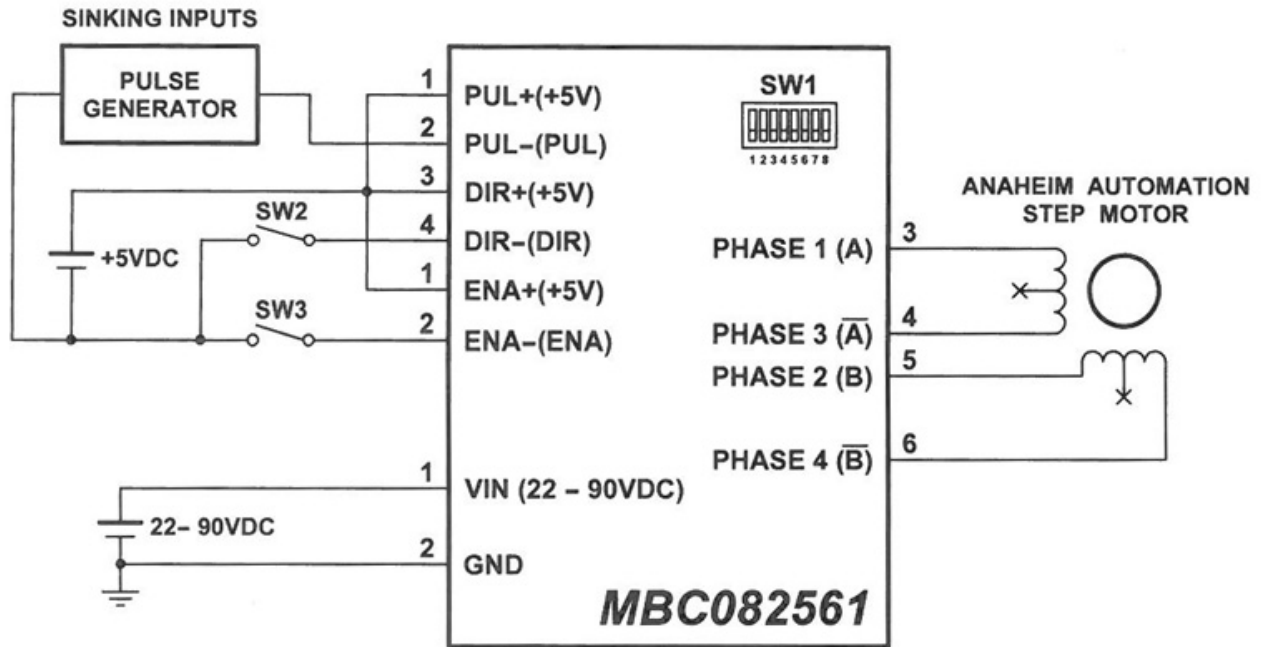
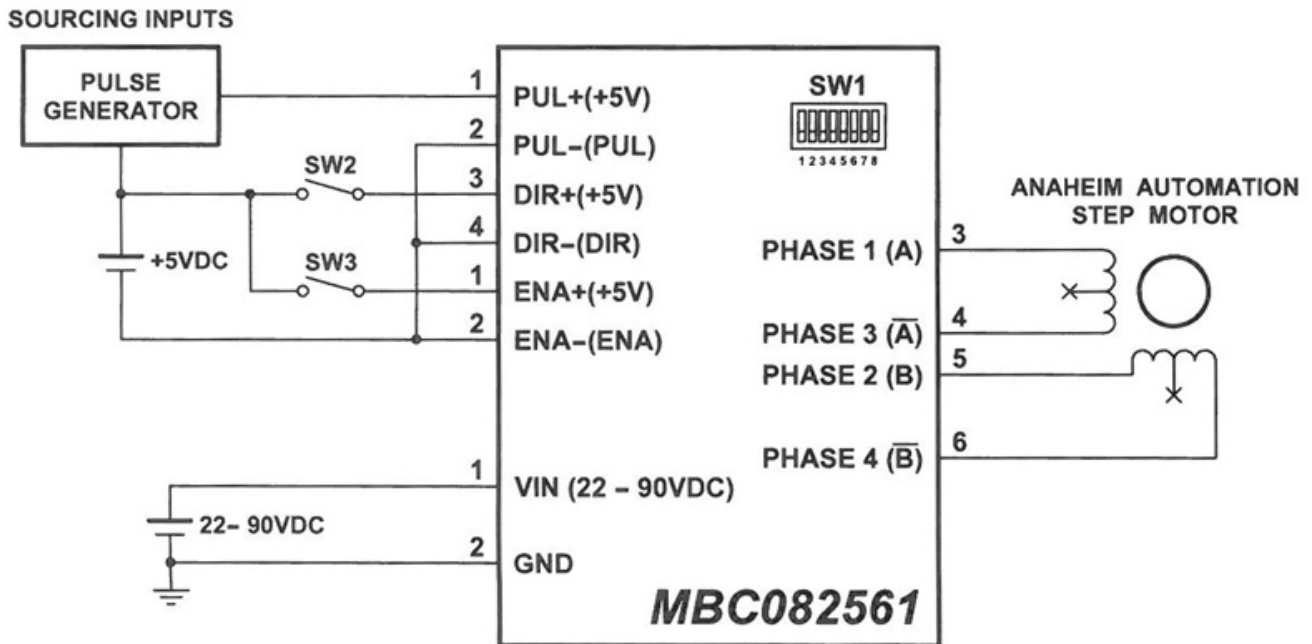

Figure 1: Hook up for current sinking inputs
Figure 2: Hook up for current sourcing inputs
The inputs on the MBC082561 are optically isolated with the anode (+) and cathode (-) both brought out to the user. With no current going through the opto-diode, the input is considered high. To enable the input a minimum of 7.0 mA needs to be sourced or sunked through the opto-diode. This is done simply by placing a voltage of +5VDC across the two inputs of the opto-diode. If sourcing current into the inputs, then all three cathodes (-) should be tied together and grounded as shown in Figure 2. If sinking current, then all three anodes (+) should be tied together to the +voltage as shown in Figure 1.
Phase 1 (A) and 3 (A) of the Step Motor is connected between pins 3 and 4 on the motor connector (TB3). Phase 2 (B) and 4 (B) of the Step Motor is connected between pins 5 and 6 on the motor connector (TB3). Refer to Figures 1 and 2 for TYPICAL APPLICATION HOOK-UP.